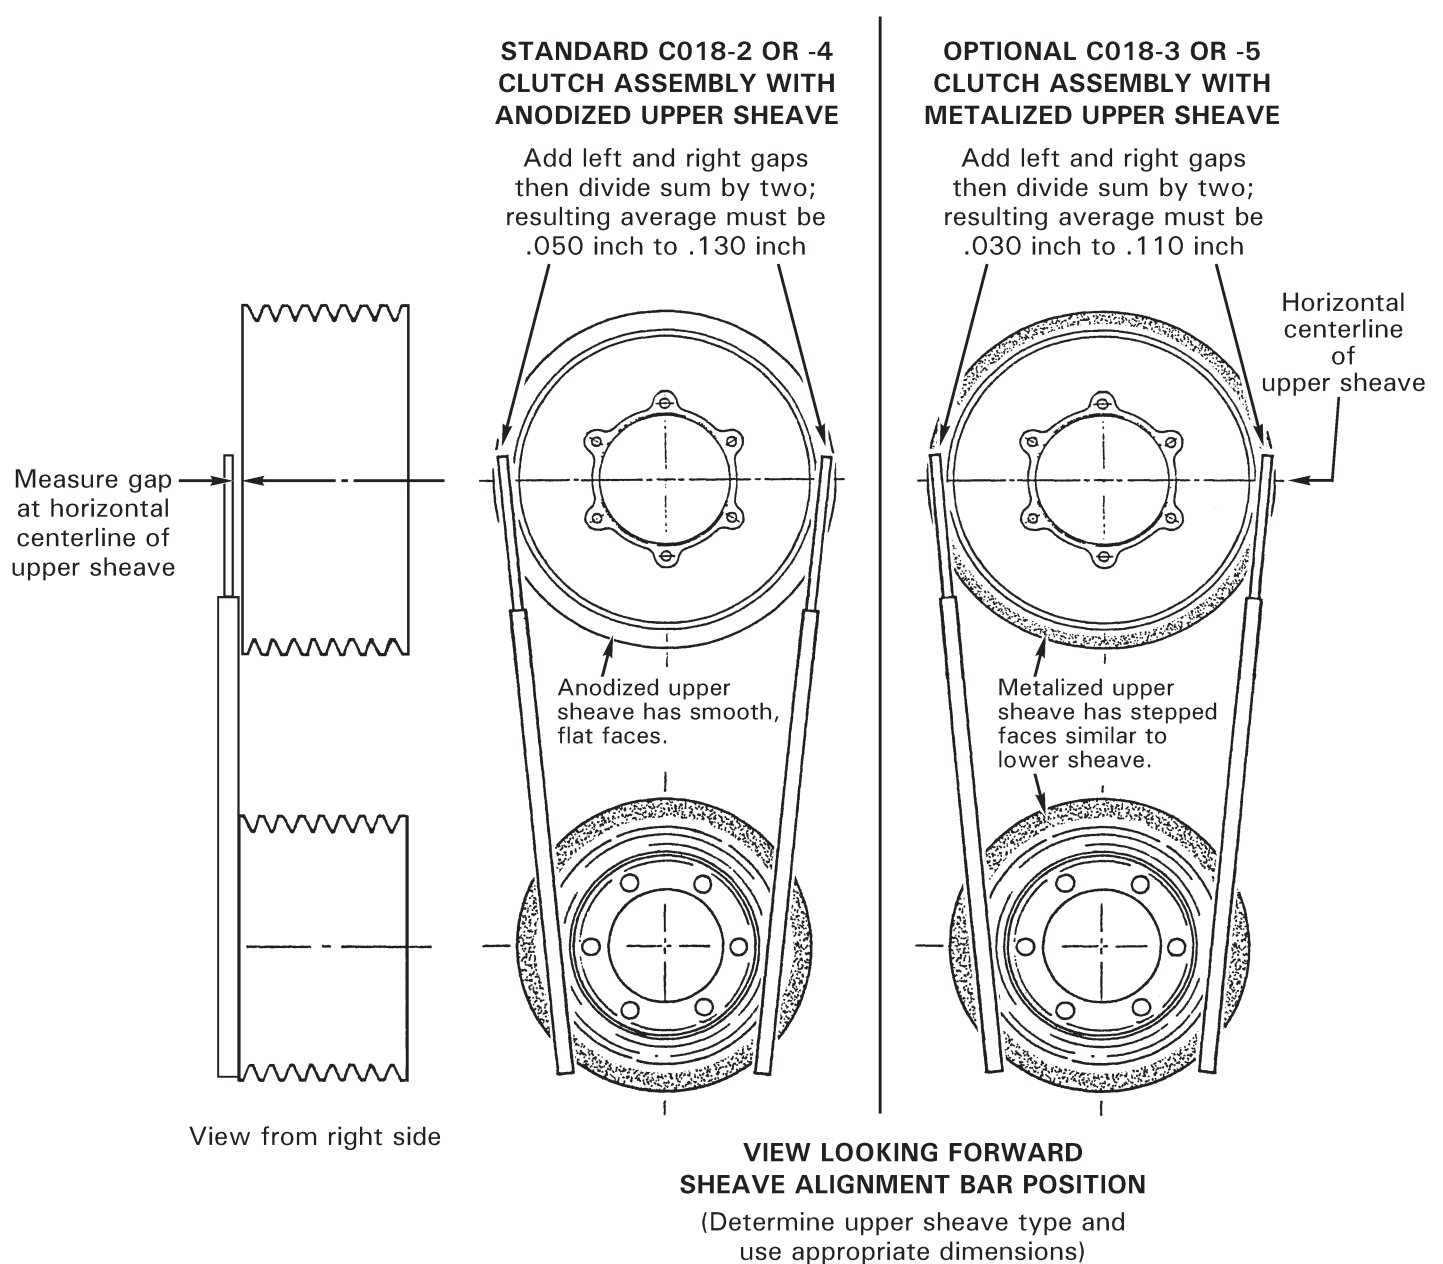

FIGURE 7-6 SHEAVE ALIGNMENT DIMENSIONS
4. Measure left and right gaps per Figure 7-6. Average of both gaps must be within noted limits.